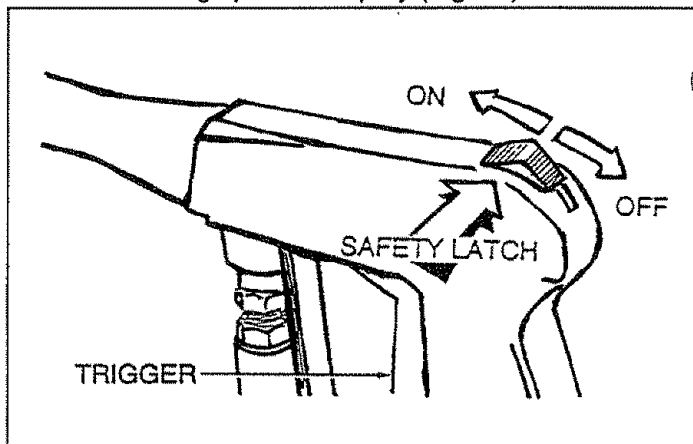

FIG. 18
- Adjust safety latch on spray gun to the ON position. This disables the trigger so you cannot inadvertently actuate a high pressure spray (Fig. 18).